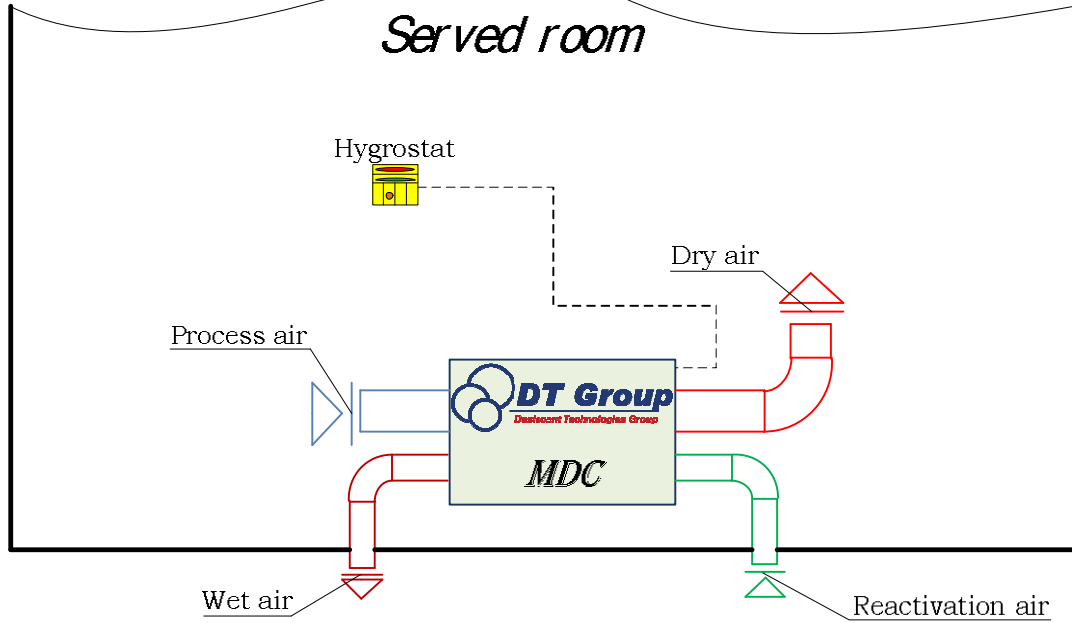
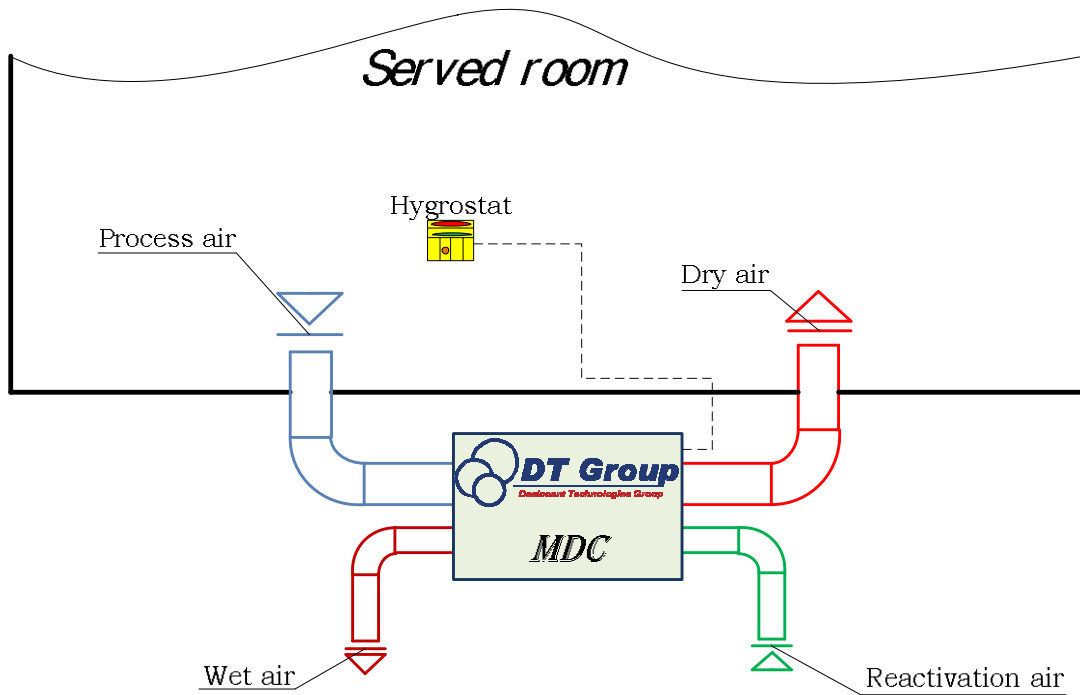

Figure 4.1: Work of a dehumidifier on the "closed" circuit (indoor version)
Figure 4.2: Work of dehumidifier on a "closed" circuit (outdoor version)
- ✓ Work of dehumidifier in "closed" circuit (indoor version), Figure 4.1;
- ✓ Work of dehumidifier on a "closed" circuit (outdoor version), Figure 4.2;
Figure 4.1 shows the installation of the dehumidifier inside serviced room when working on recirculation ("closed" circuit), i.e. the air is taken from the indoor volume, dehumidified and thrown back. Reactivation air is drawn outside the served room and ejected. In automatic mode the dehumidifier will work as long as it reaches the set point on the humidistat.
Figure 4.2 shows the option of dehumidifier outside serviced room when working on recirculation. It differs from the first option (see Figure 4.1) only by the location of the dehumidifier.